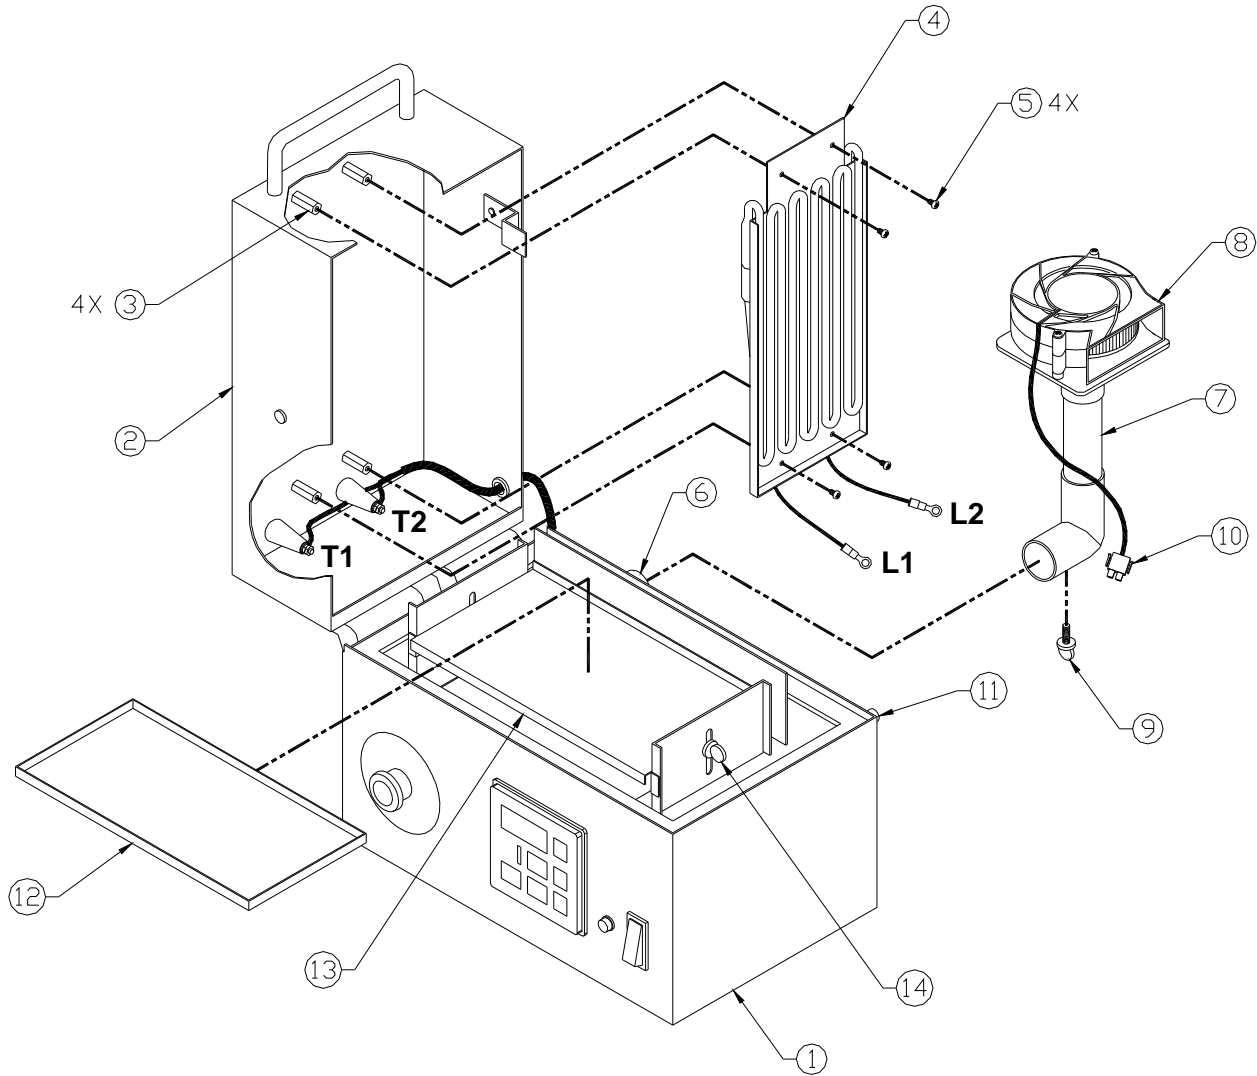

FIG. 4
Refer to Figure 4
- 2 Open Lid (2).
- 3 Using a Phillips #1 drive screwdriver, remove four Lamp Mounting Screws (5) from the four Stand-offs (3). Make sure all Stand-offs are secured to the lid; tighten as necessary.
- 4 Using an 11/32" size wrench (or adjustable wrench), remove the outermost nut on each of the insulator posts shown as T1 and T2 in Figure 4.
- 5 Carefully remove Lamp Assembly (4) from the packing box.
- 6 Carefully place the Lamp Assembly (4) onto of the four Stand-offs (3). The lamp should be facing outwards as shown in Figure 4 and the lamp wires shown as L1 and L2 should hang freely at the bottom of the reflector.
- 7 Secure the Lamp Assembly (4) to the four Stand-offs (3) using Lamp Mounting Screws (5).
- 8 Using the two nuts removed in step 4 of this procedure, secure the ring terminals on the lamp wires shown in Figure 4 as L1 and L2 to insulator posts T1 and T2. Electrical polarity is not important.